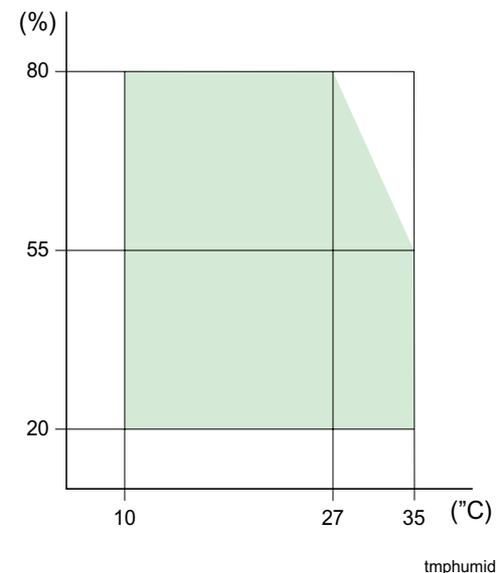

Figure 1-7. Environmental Condition
- Operating: 10 to 35°C (Refer to Figure 1-7)
- without condensation, Refer to Figure 1-7